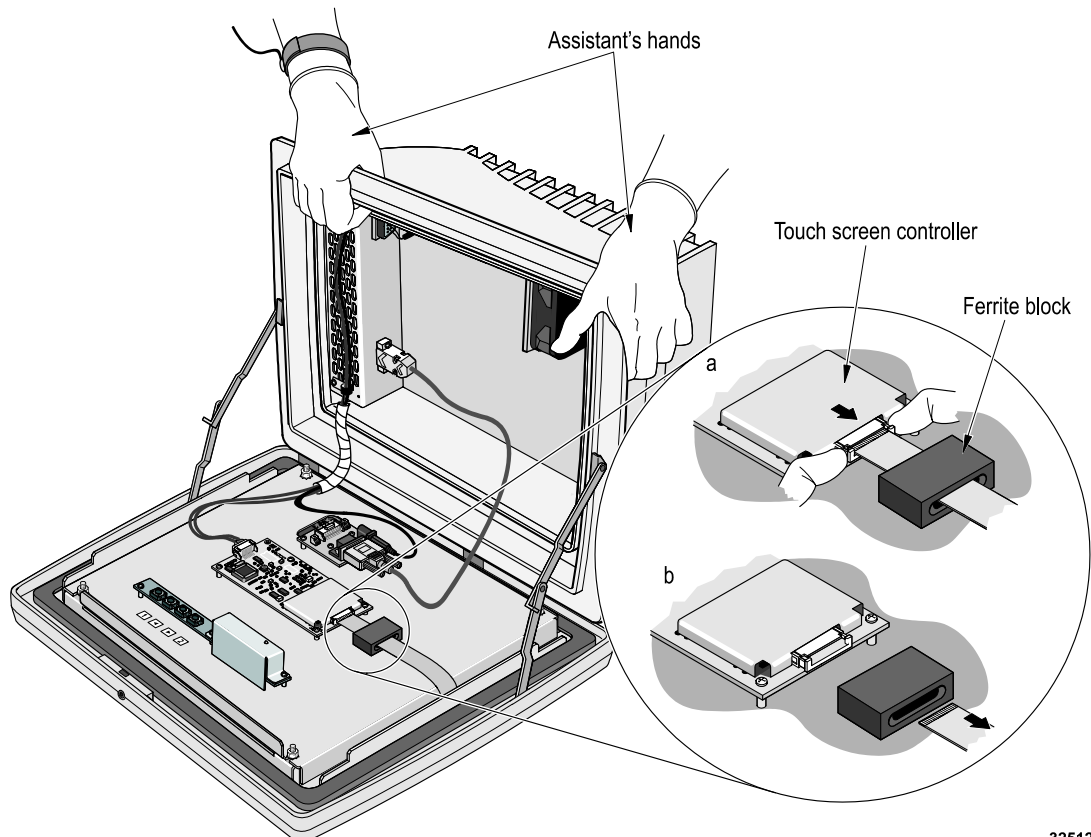

Figure 14: Disconnecting touch screen tail connector
6. Carefully disconnect the touch screen tail connector from the controller board (Figure 14).